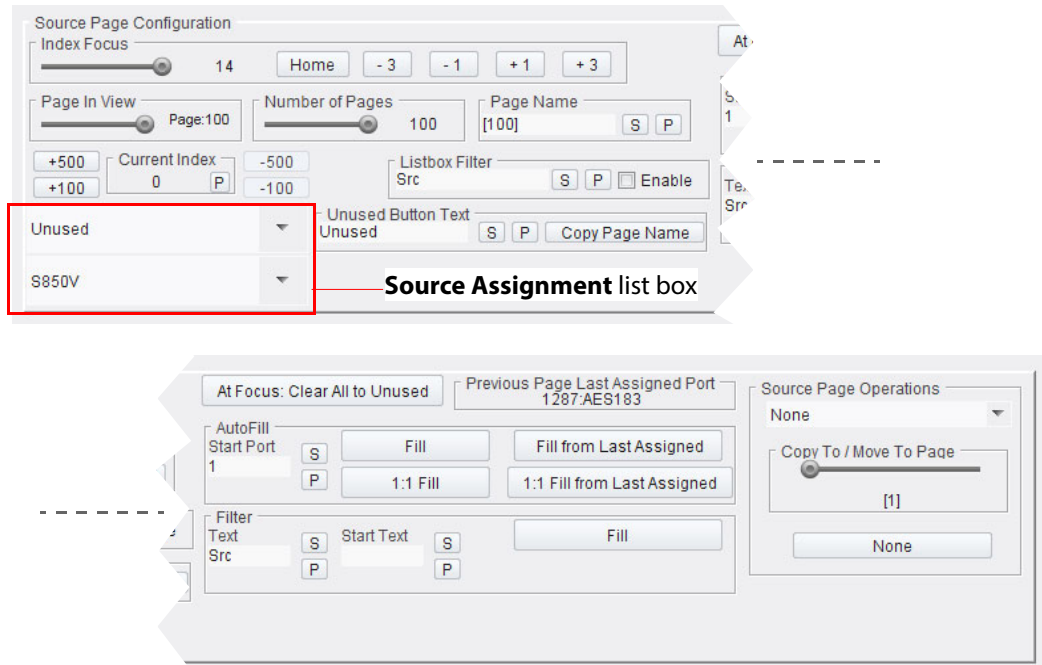

Fig. 5-32: Source Page Configuration Pane
- When configuring a source button function, the **Source Page Configuration** pane is shown. See Figure 5-30 and Figure 5-32.
An example Source Page Configuration pane is shown in Figure 5-32.